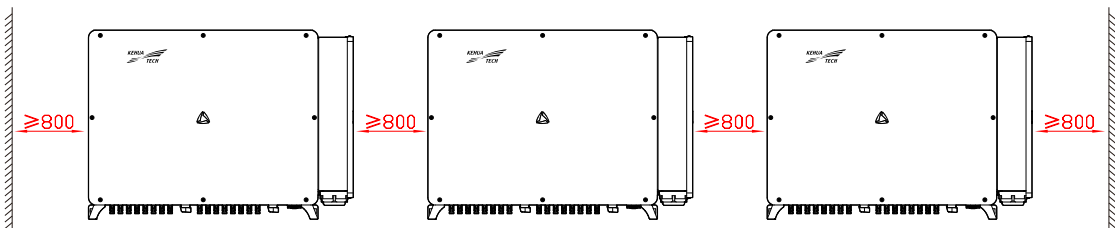

Figure3-5 Installation space requirements of multiple inverters (unit: mm)
- When multiple inverters are installed side by side, a certain space must be reserved between the inverters, as shown in Figure3-5.